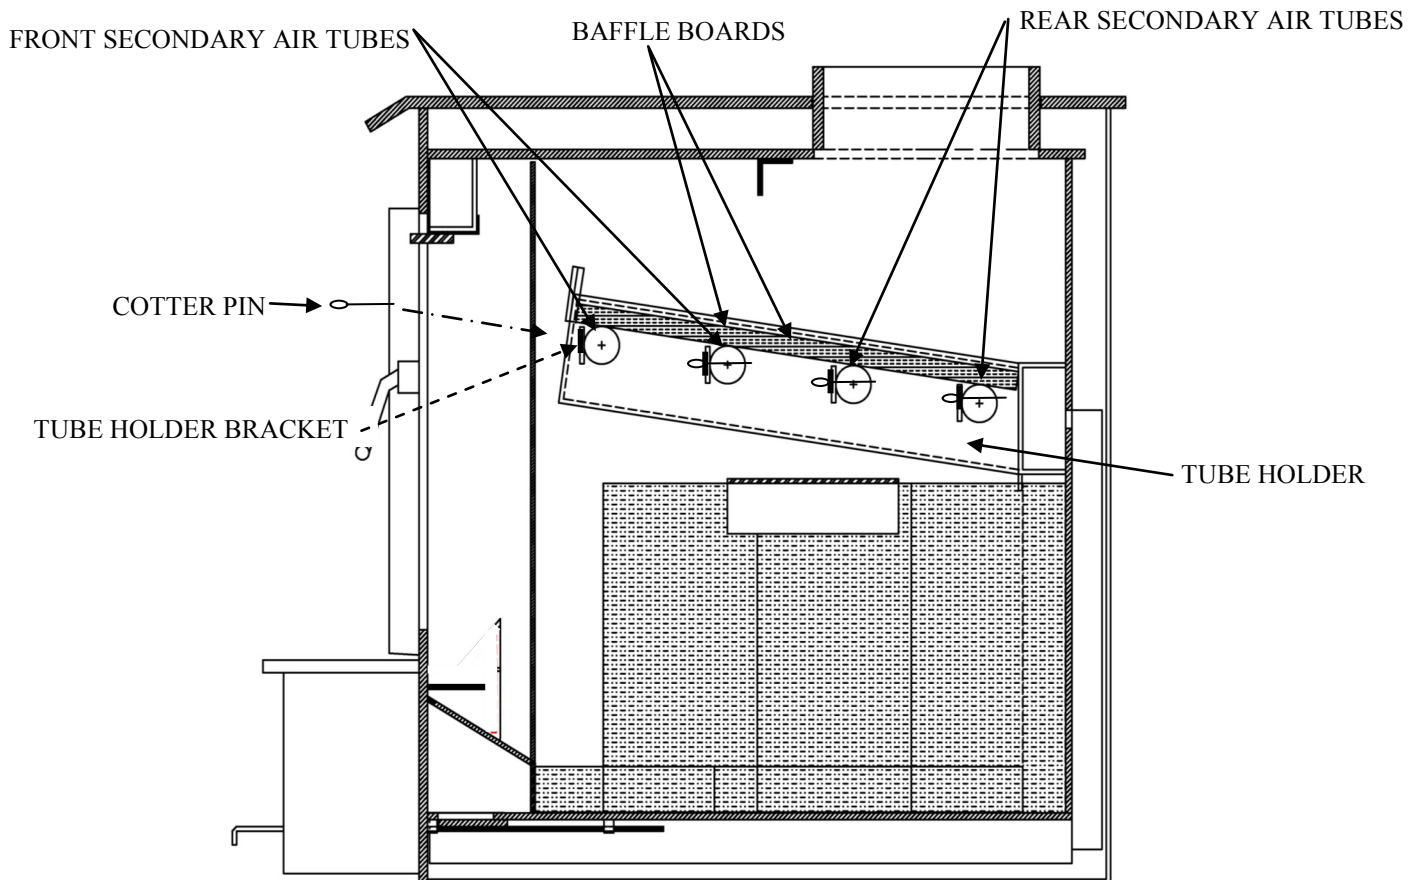

Figure 32
4. Remove air tube. The (4) secondary air tubes are located in top of burn chamber. On right side of tubes you will find a cotter pin. To remove air tube remove cotter pin and slide tube to left, it will drop down, slide tube to right it should come out. (See Figure 32).
5. When replacing tubes you need to make sure you have ordered the correct tube. There are (2) front tubes , (2) rear tubes. See replacement parts (See Page 31).
4. The baffle boards run long ways front to rear. Lift and slide baffle board toward the front. (See Figure 32).